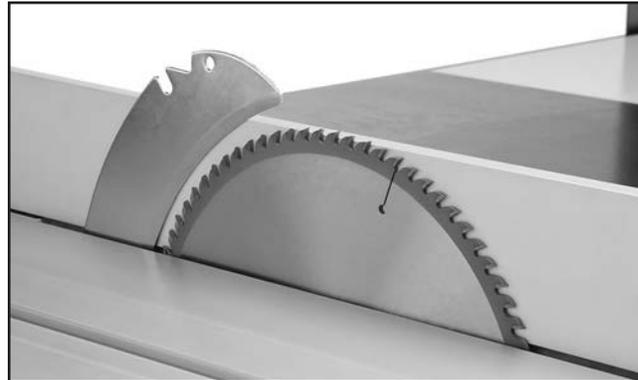

Figure 36. Rip fence against the saw blade.
39. Raise the main saw blade all the way up, then slide the rip fence against it without pushing on it, as shown in **Figure 36**.